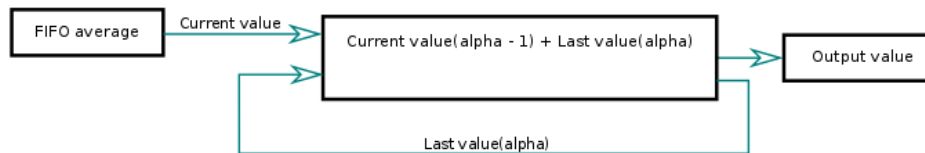

Figure 4.1: Alpha Calculation
- Alpha filter value - The alpha filter value is used to set how much weight to give the average of the FIFO Filter compared to the averaging of the last FIFO values read. (0.01 = Weigh previously recorded values heavily, 1.00 = Do not give weight to previous calculations in the filter at all). See Figure 4.1 for an example of dataflow.